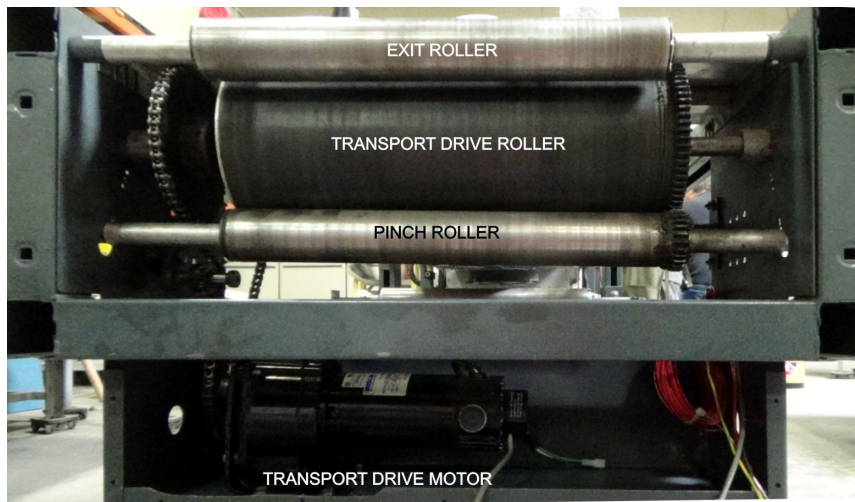

Figure 4-7 Transport Drive Rollers and Motor Access
**Transport Drive Motor and Encoder.** Located below furnace exit, the transport drive motor is connected to the belt drive roller by chain. Motor shaft includes a 30 ppr (pulses per revolution) encoder that provides feedback to the belt speed rate meter (Figure 4-7).